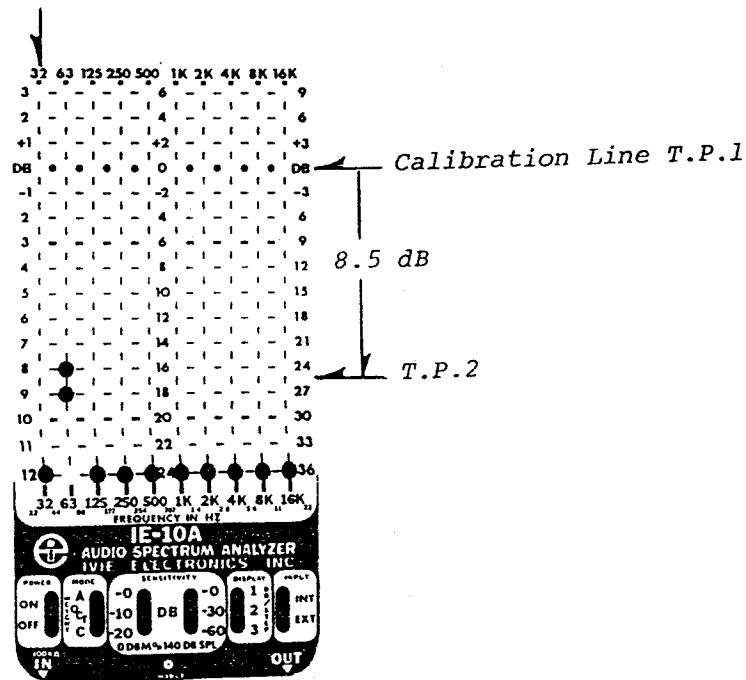

Figure 37
3. Next move the analyzer test probe to T.P.2 and note the decrease in the displayed signal level due to the insertion loss in the test device (see Fig. 37).